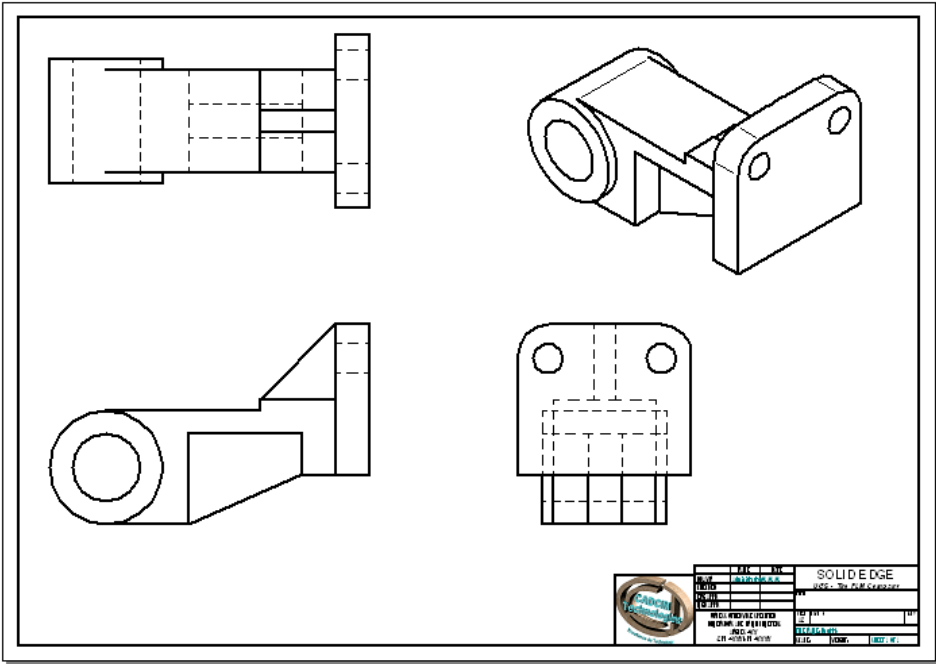

Figure 12-34 Sheet after generating all the drawing views
- d. Generate the drawing views, refer to Figure 12-34.
10. You can move the views on the sheet by dragging them. Arrange all views, as shown in Figure 12-34.